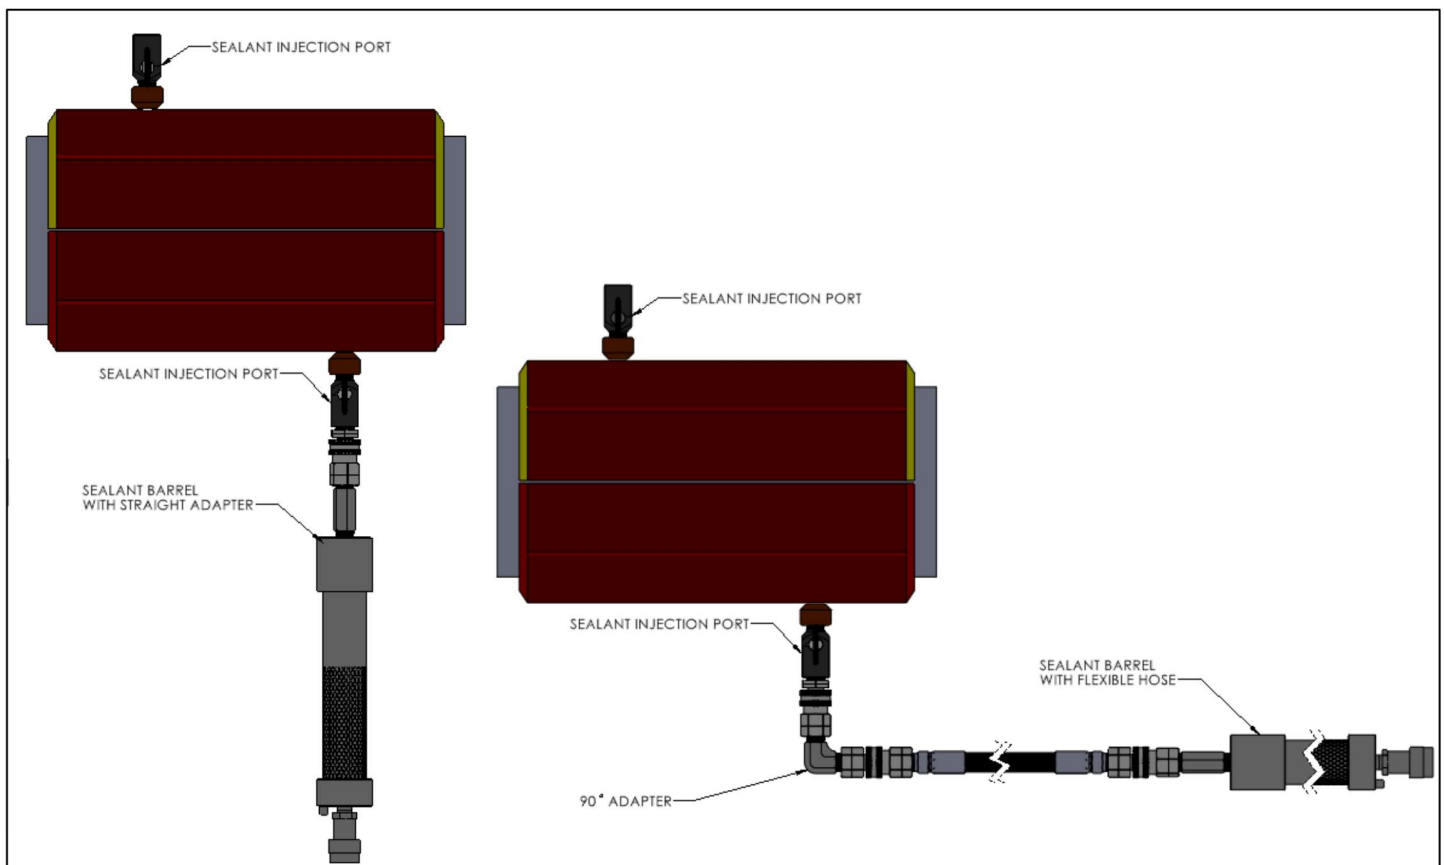

Figure 3
3. During installation of the PLIDCO fitting, make sure to have one sealant injection port as close to the top as possible. This will ensure the annulus of the PLIDCO fitting is completely filled with sealant and all the air or liquid is pushed out of the top of PLIDCO fitting. (See Figure 3 and 4)